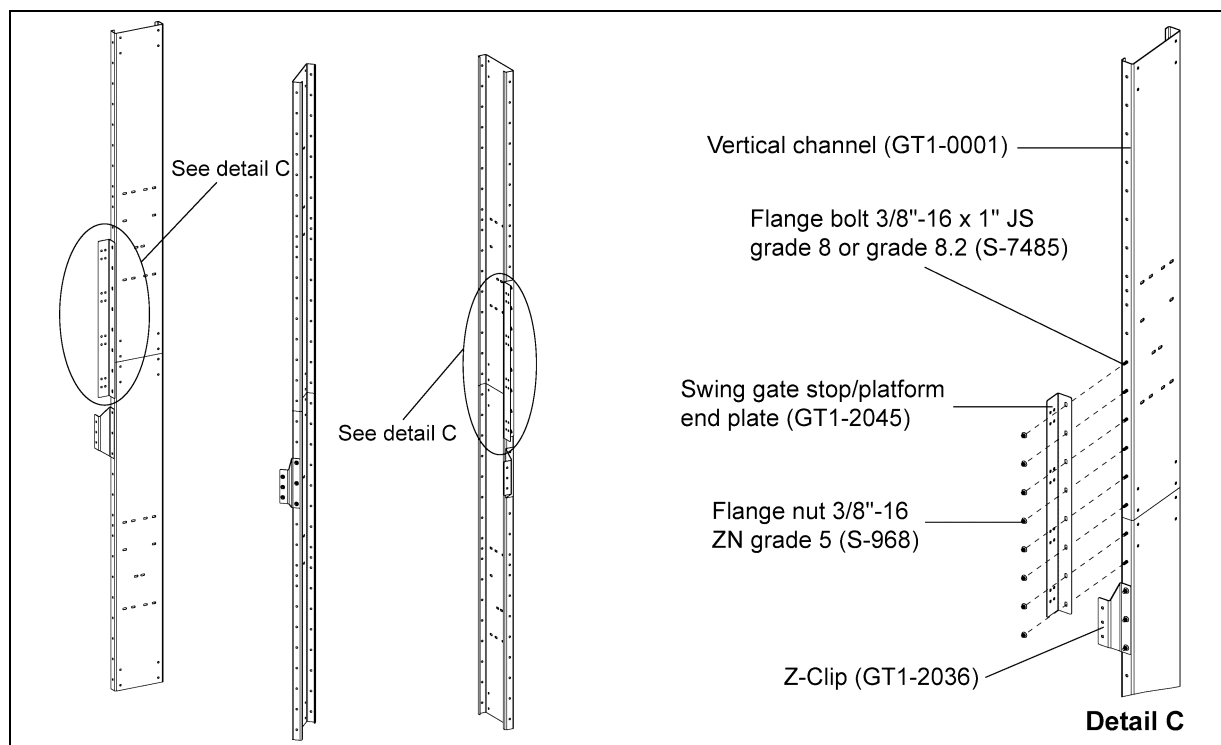
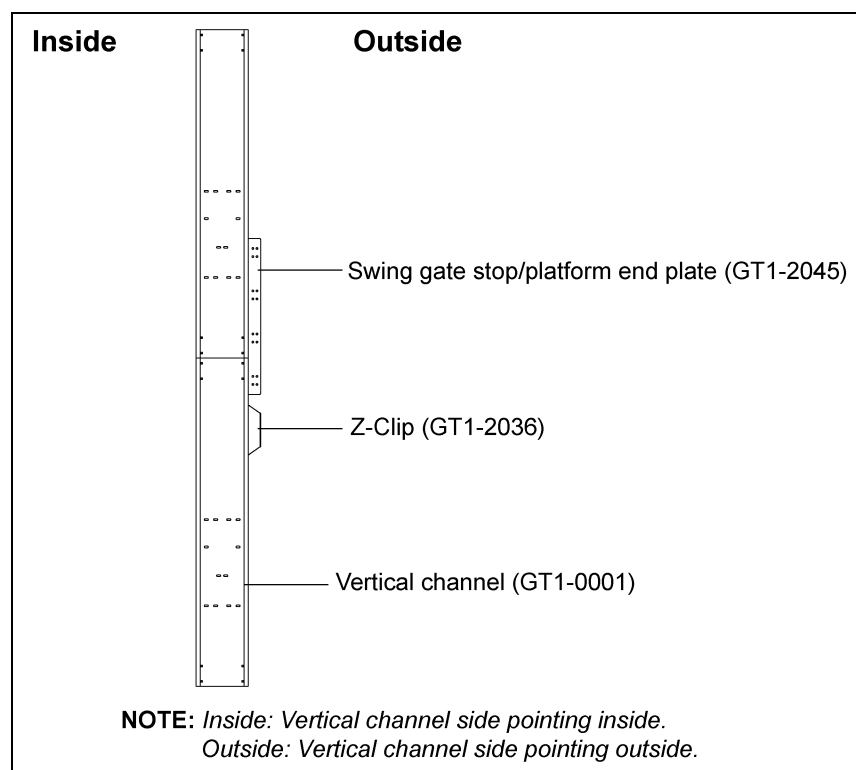

Figure 6E Offset Swing Gate Stop Installation
Figure 6F
1. Install swing gate stops (GT1-2045) to the safety gate opening vertical channel and catwalk end vertical channel on offset catwalk as wall sheets are installed using 3/8"-16 x 1" JS grade 8 or grade 8.2 bolts (S-7485) and 3/8"-16 grade 5 nuts (S-968). *(See Figure 6E and Figure 6F.)*